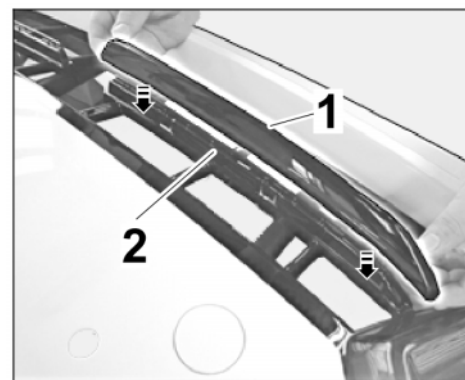

Figure 32
3.8.1 Clip vane at the left and right onto the center grille (radiator grille) (⇒ Figure 32).